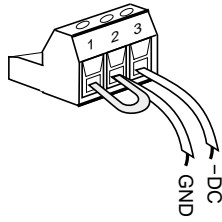

Figure 2 3-position terminal strip showing DC output connected for a positive ground scheme.
3.7 SELECTING THE DESIRED DC OUTPUT SCHEME As mentioned previously, the DC output is floating (isolated) in respect to earth ground. The DC output can be connected to the equipment to be powered in this manner, or it can be referenced to earth ground. In telecommunications applications it is typical to utilize a positive ground, with the output configured to be -24Vdc in respect to earth ground. This is easily accomplished by strapping terminal strip pin 1 (ground) to pin 2 (+DC) and using this combination as the ground connection to the load, shown in Figure 2. The -24Vdc is then connected from pin 3 (-DC) to the load. Note that pin 1 is internally connected to the Model 712 chassis and the safety ground wire of the mains power cord.